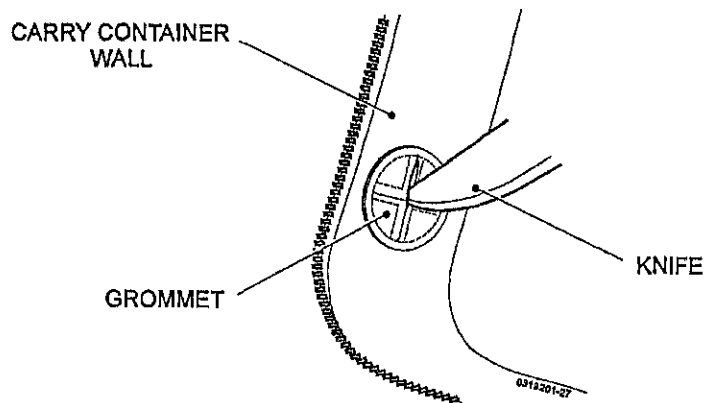

Fig 20 Carry container lower left hand grommet - opening up
85.4.1 Refer to Fig 20. Using a knife, from inside the carry container insert the knife into each slit in turn in the lower left hand grommet and carefully cut through the container wall to open up the grommet.